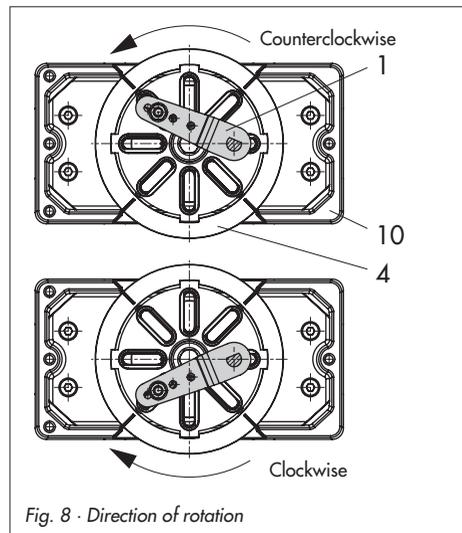

Fig. 8 · Direction of rotation
Table 5 Attachment to rotary actuators (VDI/VDE 3845 for all sizes of fixing level 2) see Figs. 8 and 9
- Place positioner on the housing (10) and screw it tight. Considering the actuator's direction of rotation, align lever (1) so that it engages in the correct slot of the coupling wheel with its follower pin (Fig. 8).